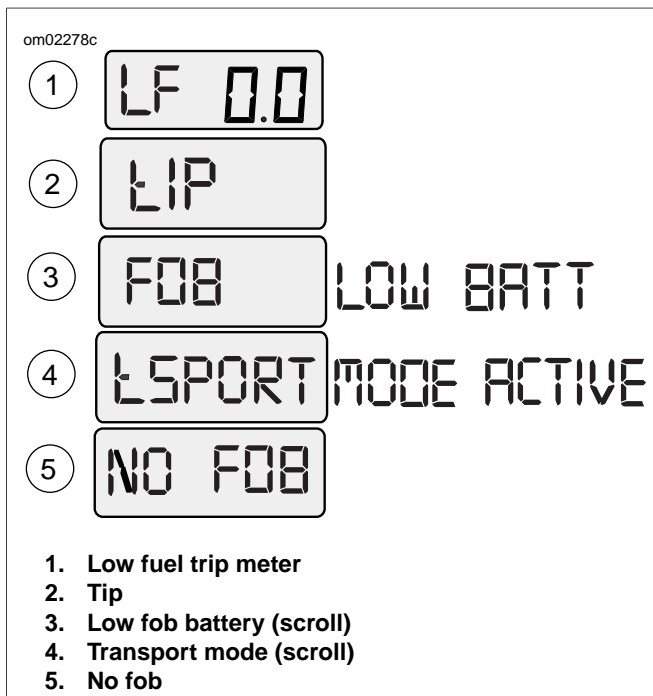

Figure 17. Odometer Window Messages
Low Fuel Trip Meter (LF): See Figure 17. When the low fuel indicator illuminates in the speedometer face, a low fuel message (LF) (1) appears in the odometer window with a mileage number. See OPERATION, Indicators.
Tip (tiP): See Figure 17. When the motorcycle is tipped over, the work "tiP" (2) appears in the odometer window. The engine does not restart until the ignition is reset.
Fob Low Battery (FOB LOW BATT): See Figure 17. If the battery in the security fob is low, the message "FOB LOW BATT" (3) will scroll in the odometer window. Change the fob battery. See SECURITY SYSTEM, Security System Fob
Transport Mode Active (tSPORT MODE ACTIVE): See Figure 17. The security system is in the transport mode when the "tSPORT MODE ACTIVE" message (4) will scroll in the odometer window. See SECURITY SYSTEM, Transport Mode.
No Fob (NO FOB): See Figure 17. When the system cannot communicate with the fob, this message (5) is displayed. See SECURITY SYSTEM, Troubleshooting.